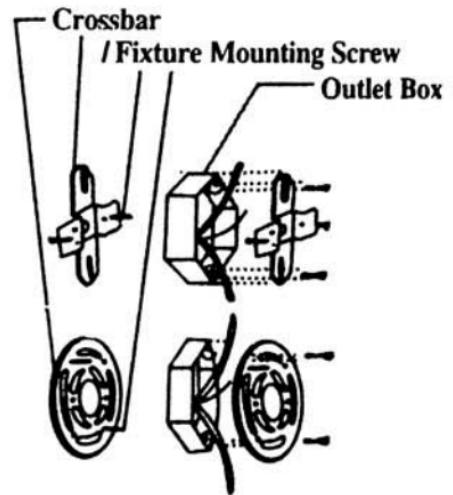

FIG.1 FIG.3
1. a) Insert fixture mounting screws into appropriate holes of crossbar.(FIG.1)